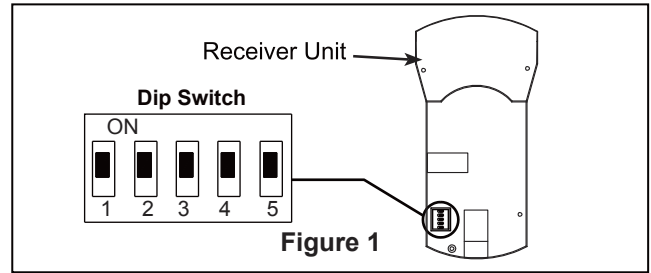

Figure 1
- ☐ 1. Assemble canopy by rotating key slot in canopy over shoulder screw in hanger bracket, taking care not to pinch the wires. Tighten shoulder screw. Fully assemble and tighten second shoulder screw that was previously removed. (Figure 1)